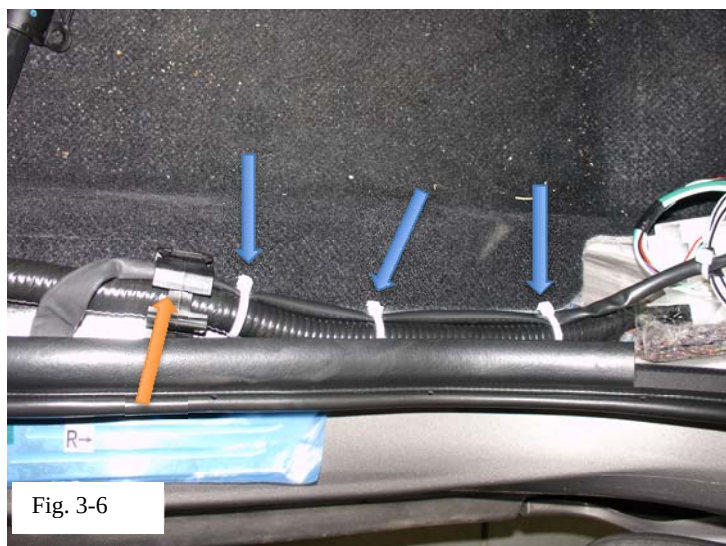

Fig. 3-6
7. Route optical cable along existing harness and harness holder (orange arrow) towards junction blocks in kick panel. Secure with three (3) wire ties as shown (blue arrows). (Fig. 3-6)